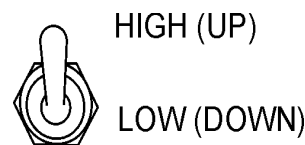

Figure 55. Engine Speed Switch (high)
12. Once the engine is warm and the engine is running properly, set the engine speed switch to 'High' (Figure 55).